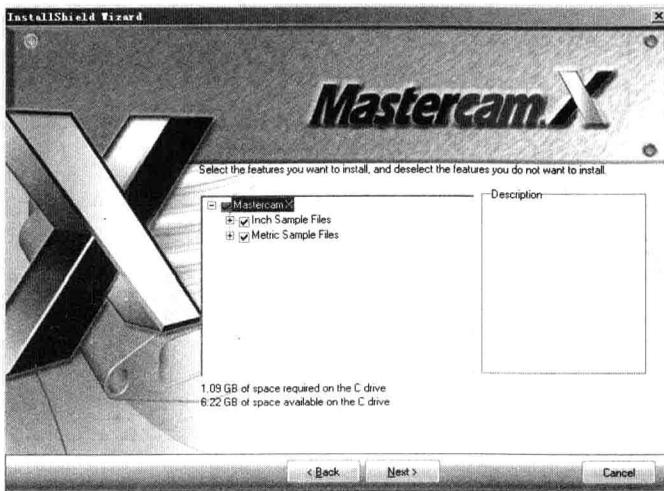

图 0.11 Select the features you want to install, and deselect the features you do not want to install 界面
(11) 设置好安装目录后单击 Next 按钮，打开如图 0.11 所示的 Select the features you want to install, and deselect the features you do not want to install 界面，安装需要的示例文件。可以通过选中或取消选中前面的复选框来设置是否安装示例文件。